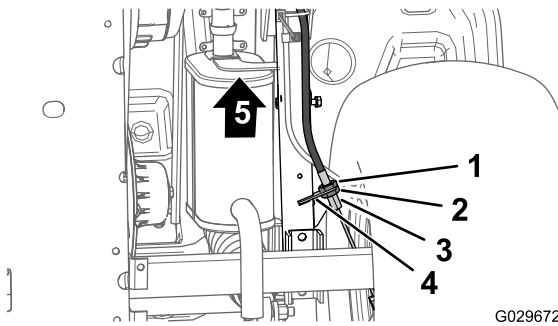

Figure 64
3. At the bottom of the machine, loosen the rear-jam nut for the threaded adjuster of the parking-brake cable 4 turns (Figure 64).
4. Tighten the forward jam nut (Figure 64).
- A. Loosen the forward-jam nut (Figure 64) for the threaded adjuster of the parking-brake cable 1 turn.
- B. Tighten the rear jam nut (Figure 64).
- A. Loosen the rear-jam nut (Figure 64) for the threaded adjuster of the parking-brake cable 1 turn.
- B. Tighten the forward jam nut (Figure 64).